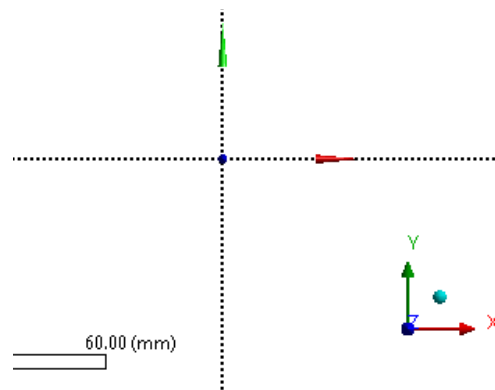

Figure 3-16 XY plane after choosing **Look At** tool from the **Graphics** toolbar
5. Right-click anywhere in the **Graphics** window and choose the **Look At** tool from the shortcut menu; the view is oriented as required, refer to Figure 3-16.